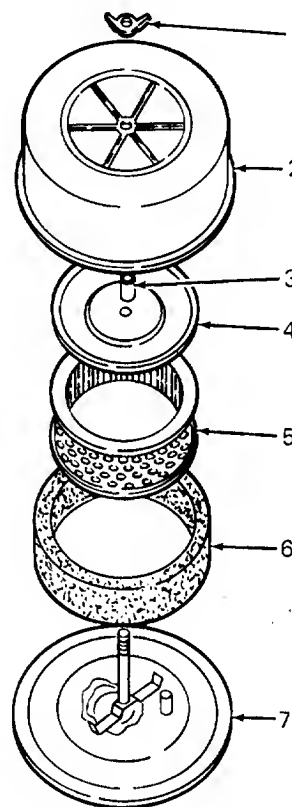

Figure 32. Air Cleaner Assembly
1. Remove wing nut and cover. (See Figure 32.)
dirty, dusty conditions. Do not wash element in any liquid or attempt to blow dirt off with air hose as this will puncture filter element. Carefully handle new element — do not use if gasket surfaces are bent or twisted. Check the following when installing a new element: (See Figure 32.)